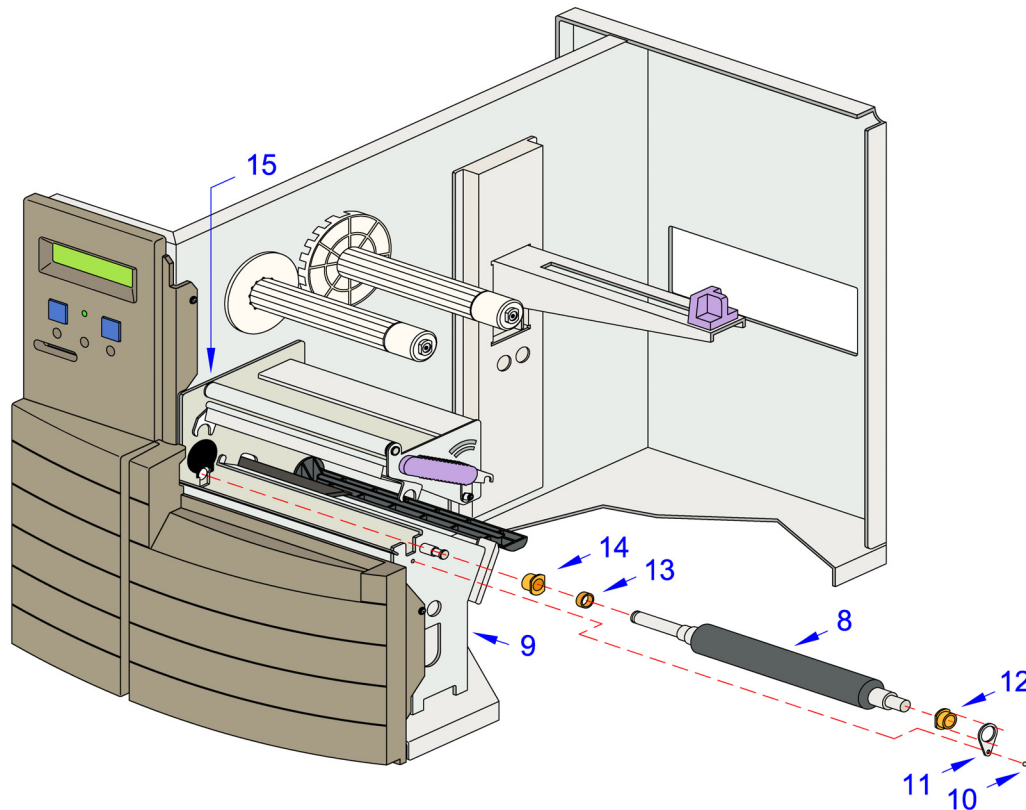

Figure 7-2b, Platen Roller Replacement
3. Remove two screws (3) securing plate (4). Lift away plate (4).
4. Detach snap ring (5) and withdraw belt guide (6) and pulley (7) consecutively from platen roller (8).
5. Open the right housing cover (not shown) to access print assembly (9, Figure 7-2b).
6. Remove screw (10), retaining plate (11), and bushing (12) from defective platen roller (8).
7. Withdraw defective roller (8) from print assembly (9) and withdraw collar (13), bushing (14) from its opposite end.